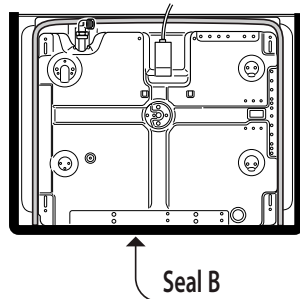

Fig. 3c
- 4 Spread the seal "B" around the left, front and right edges of the cooktop (Fig. 3c).